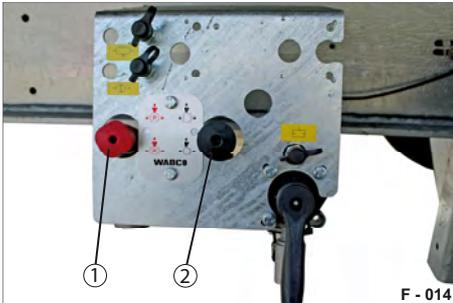

Fig. 20 Operating console
- ▶ Engage the spring-loaded parking brake (Fig. 20/1).